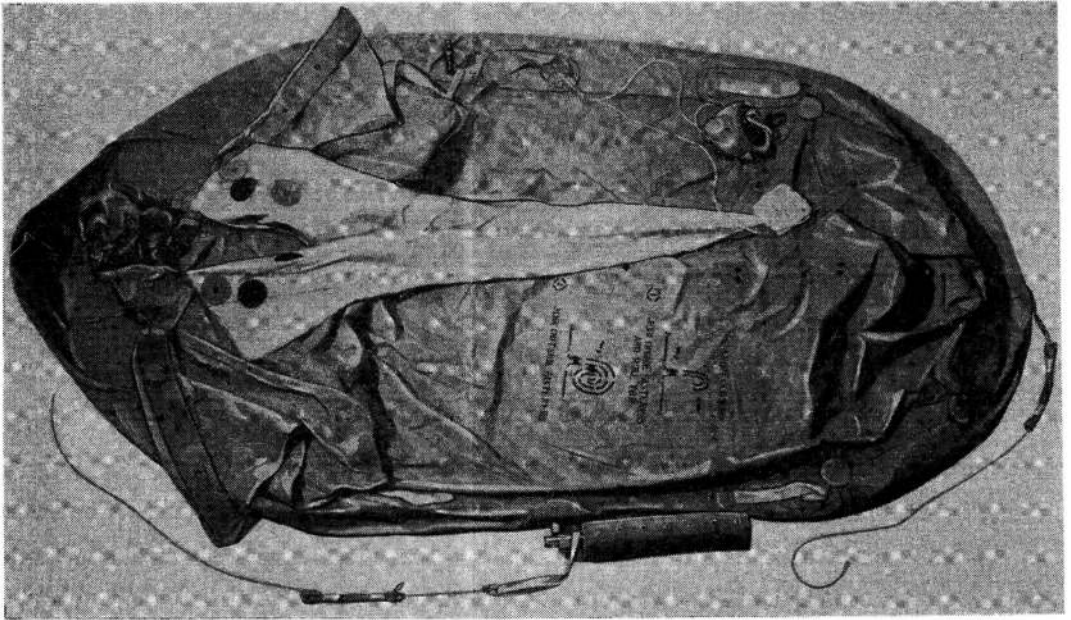

Fig. 3. Exposure equipment folded flat on dinghy
15. Five folds are used, two longitudinal and three lateral. Before folding the dinghy, arrange the exposure equipment, i.e., cape and apron, as shown in *fig. 3*; the cape and apron are laid flat with the front opening turned back to form a VEE, the sleeves are folded towards the centre and the outer edges overlap the buoyancy chamber.